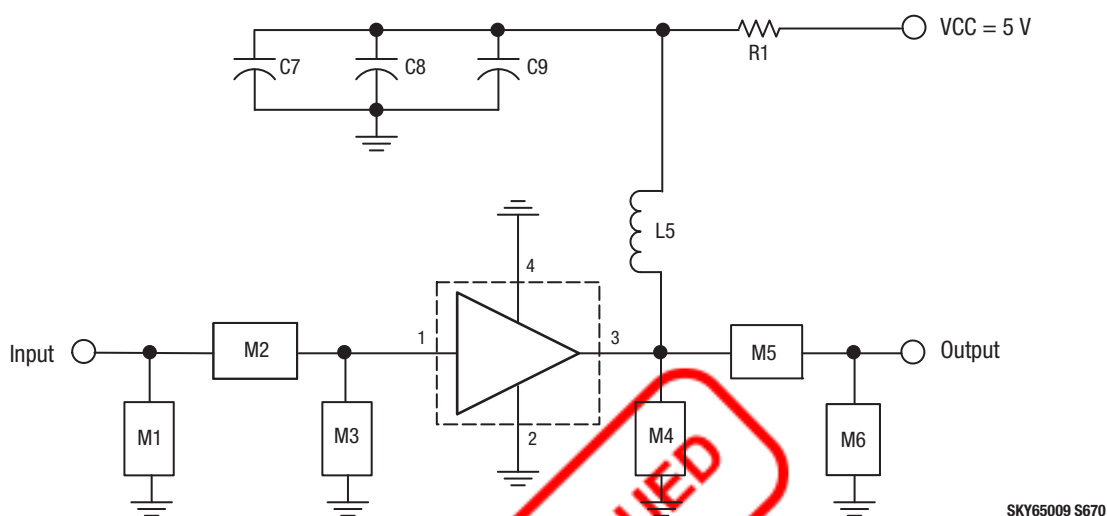
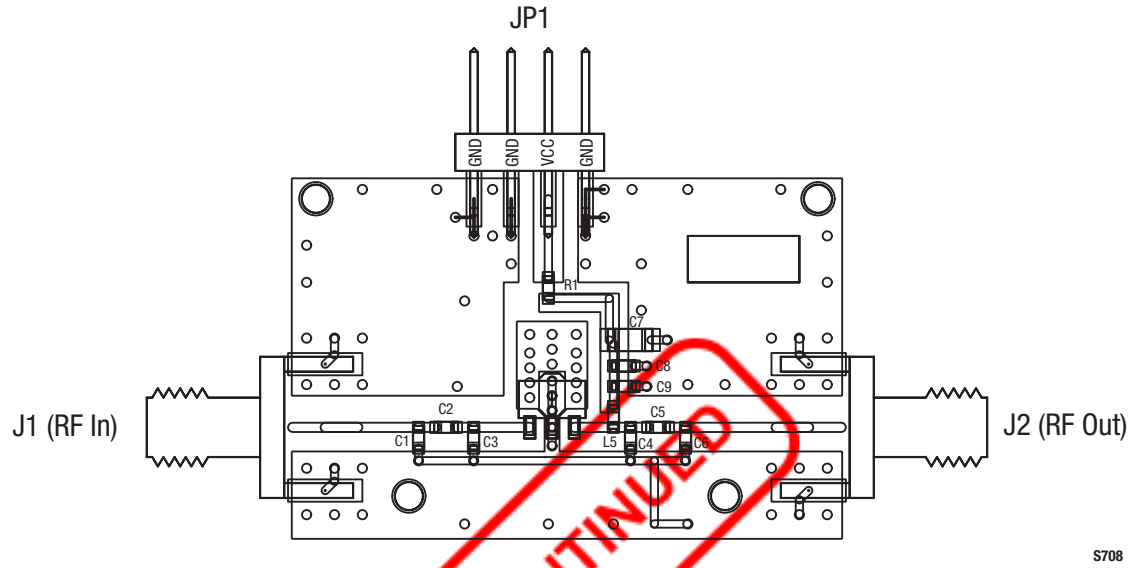

Figure 93. SKY65009 Evaluation Board Schematic
Figure 94. SKY65009 Evaluation Board Assembly Drawing
The Skyworks SKY65009 Evaluation Board is used to test the performance of the SKY65009-70LF PA driver. The Evaluation Board schematic diagram is shown in Figure 93, and component values vs. frequency information is shown in Table 5. An assembly drawing for the Evaluation Board is shown in Figure 94, and the layer detail is provided in Figure 95. The layer detail physical characteristics are noted in Figure 96.
3. Skyworks recommends including external bypass capacitors on the DC supply lines. An RF inductor is required on the VCC supply line to block RF signals from the DC supply. Refer to Figure 93 for more detail.